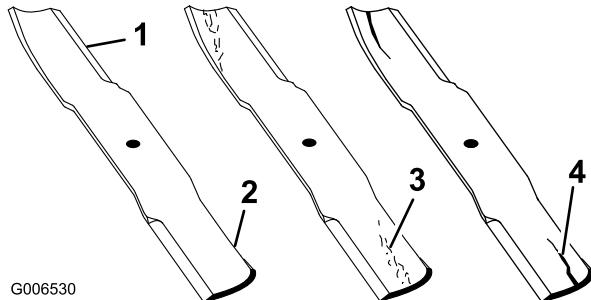

Figure 100
2. Examine the cutting ends of the blade carefully, especially where the flat and curved parts of the blade meet (Figure 100). Since sand and abrasive material can wear away the metal that connects the flat and curved parts of the blade, check the blade before using the mower. If wear is noticed (Figure 100), replace the blade.